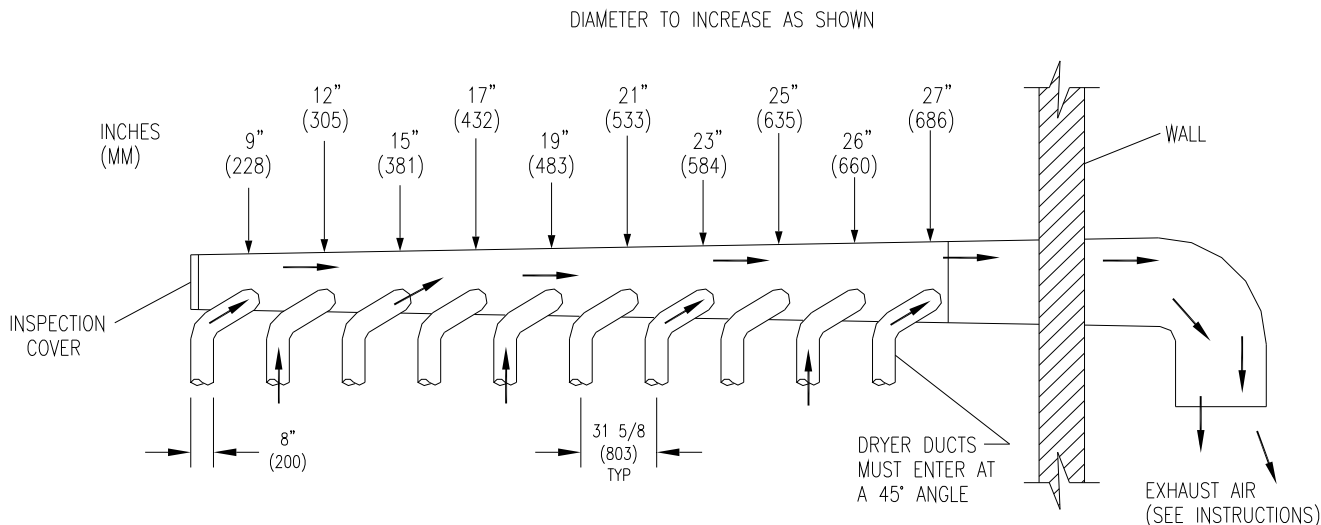

FIGURE 2- Dryer Exhausting Using A Main Discharge Duct.
6. EXHAUST INSTALLATION. (Refer to Figure 2 at the end of section 6.) Exhausting of the dryer(s) should be planned and constructed so that no air restrictions occur. Any restriction due to pipe size or type of installation can cause slow drying time, excessive heat, and lint in the room.
Installation of several dryers, where a main discharge duct is necessary, will need the following considerations for installation (see Fig. 2). Individual 8" (200mm) ducts from the dryers into the main discharge duct should be at a 45 degree angle in the direction of discharge air flow.
NOTE: Never install the individual 8" ducts at a right angle into the main discharge duct. The individual ducts from the dryers can enter at the sides or bottom of the main discharge duct. Figure 2 indicates the various round main duct diameter to use with the individual dryer ducts. The main duct can be rectangular or round, provided adequate air flow is maintained. For each individual dryer, the total exhausting (main discharge duct plus duct outlet from the dryer) should not exceed the equivalent of 20 feet (6m) and two elbows. The diameter of the main discharge duct at the last dryer must be maintained to exhaust end.